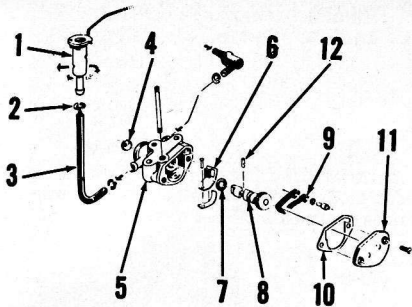

Fig. PT16—Exploded view of chain oil pump used on models R12, R14, R16, R17 and PT15. Refer to Fig. PT15 for operation of pump.
Fig. PT15—Oil pump shown in Fig. PT16 is actuated by a cam on the crankshaft forcing the pump rod (1) against the leaf spring (2) and turning pump cog (3) with a ratchet type motion. Pin (9) working in a cam groove in the pump plunger converts the circular motion to a reciprocating pumping action. Slot (8) exposes the oil inlet (7) and outlet (10) on each revolution. On models R16 and R17 a control valve (22-PT5) is used.
interlock spring set (9—Fig. PT16) properly actuates the plunger (8).